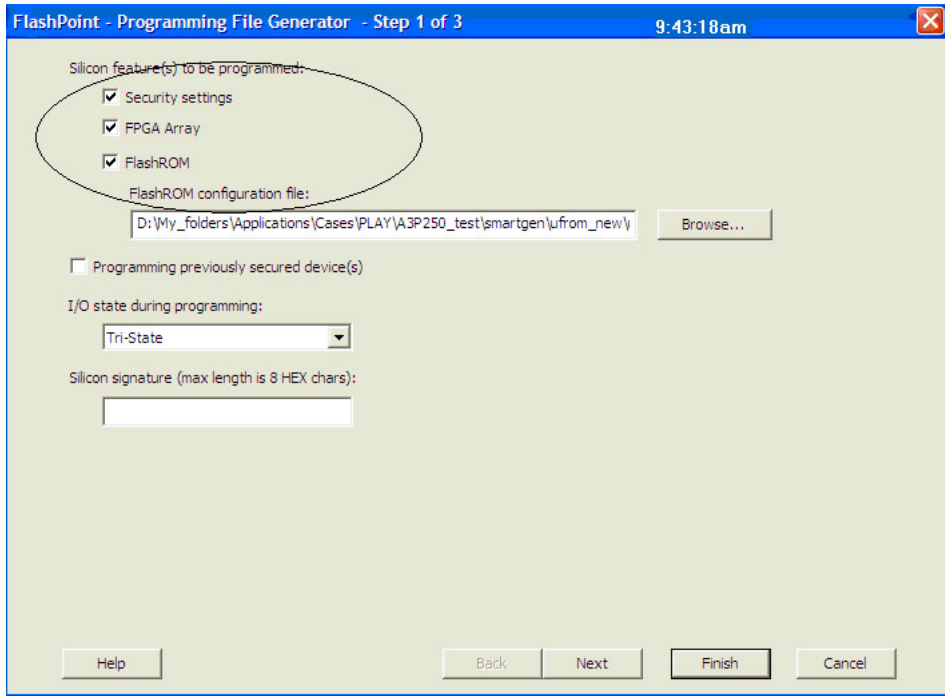
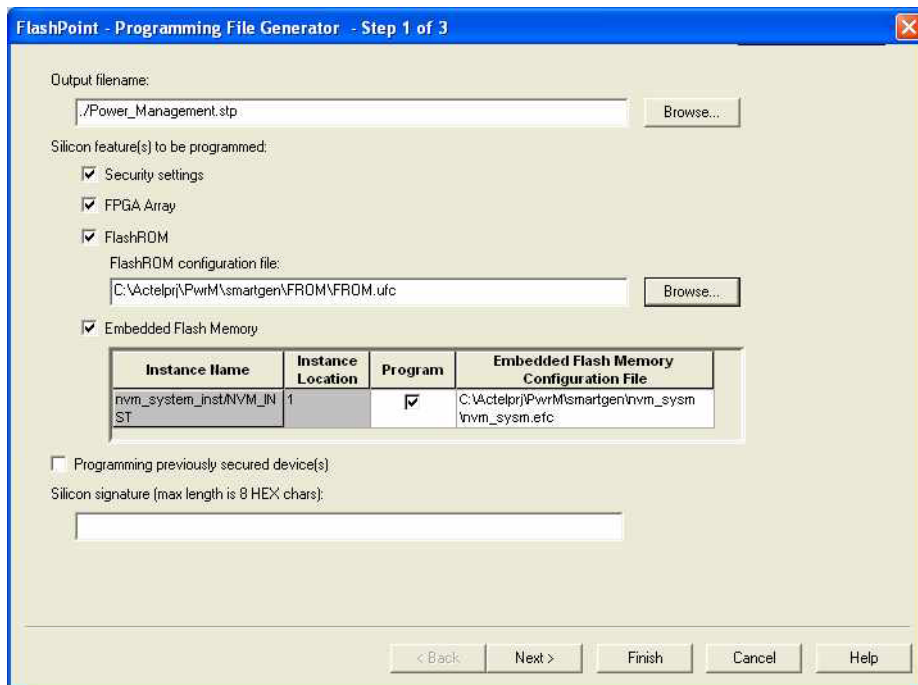
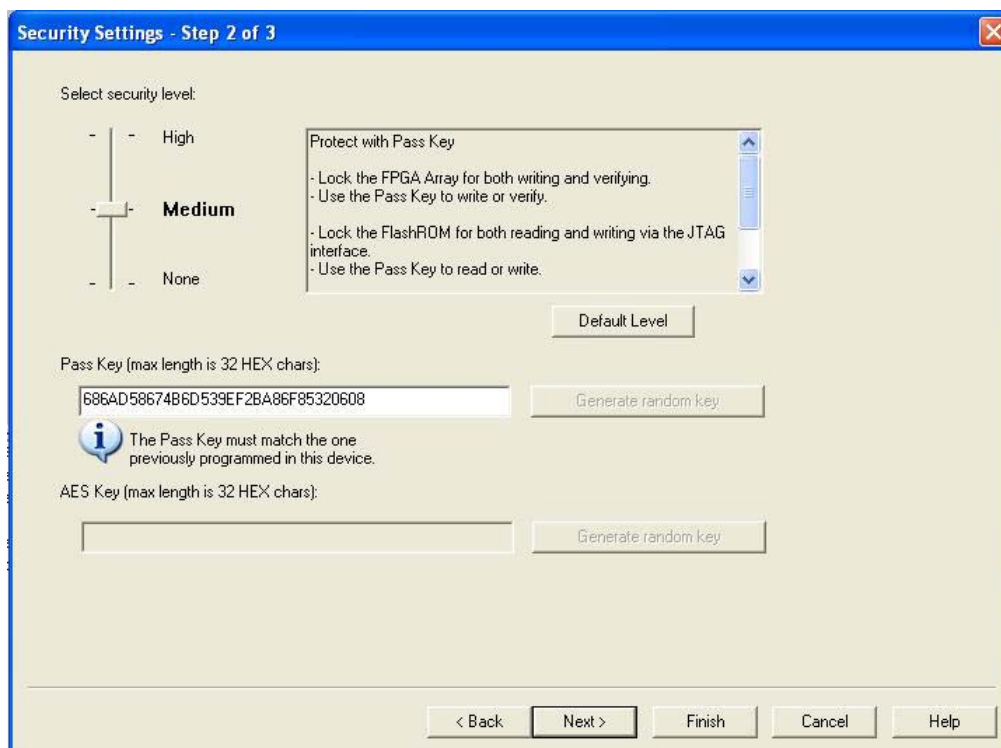

Figure 11-10 • All Silicon Features Selected for IGLOO and ProASIC3 Devices
Figure 11-11 • All Silicon Features Selected for Fusion
Figure 11-19 • FlashLock Pass Key, Previously Programmed Devices
1. Select the **Silicon features to be programmed** (Security Settings, FPGA Array, FlashROM, Flash Memory Blocks), as shown in Figure 11-10 on page 248 and Figure 11-11 on page 248. Click **Next**.
Figure 11-10 on page 248 and Figure 11-11 on page 248 show the option **Programming previously secured device(s)**, which the user should select before proceeding. Upon going to the next step, the user will be notified that the same FlashLock Pass Key needs to be entered, as shown in Figure 11-19 on page 256.
It is important to note that when the security settings need to be updated, the user also needs to select the **Security settings** check box in Step 1, as shown in Figure 11-10 on page 248 and Figure 11-11 on page 248, to modify the security settings. The user must consider the following: